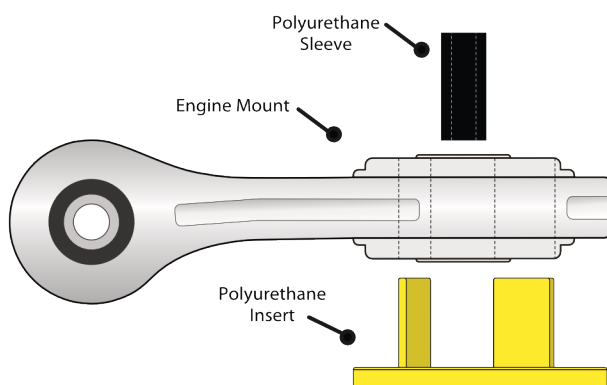
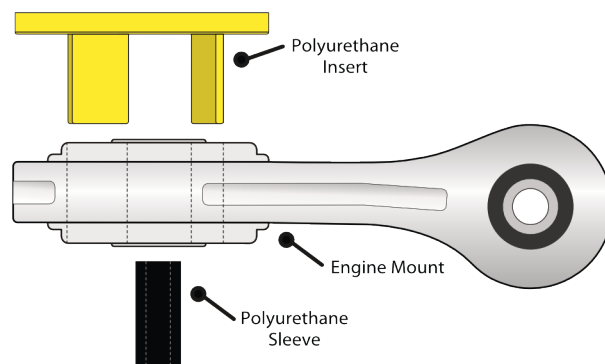

Figure 1 - 4C
Figure 2 - Giulietta
4. Fit the polyurethane insert into the engine mount bush, ensuring the flange is positioned as shown in **Figure 1** and **Figure 2**.